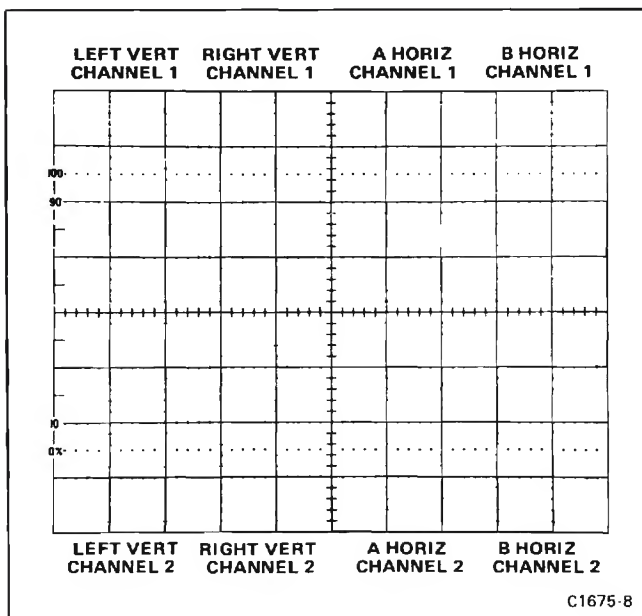
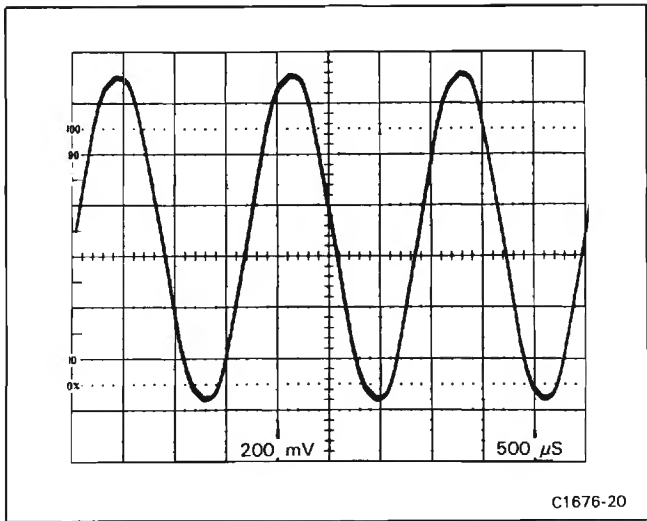

Figure 2-38. Location of Readout words on the crt identifying the originating plug-in and channel.
Figure 2-40. Typical readout display where only channel 2 of the Right Vertical and B Horizontal units is displayed.
**Frame**—A frame is a display of all words for a given operating mode and plug-in combination. Up to eight words acquired from the plug-ins can be displayed in one frame. Figure 2-38 shows the position of each word in a complete frame when operating the instrument in the scope mode.
In the SCOPE mode, up to eight words of readout information may be displayed on the crt. The position of each word is fixed and is directly related to the plug-in unit from which it originated. Figure 2-38 shows the area of the graticule where the readout information from each plug-in unit is displayed. Notice that Channel 1 information from each plug-in unit is displayed on line 1 of the crt while that of Channel 2 is displayed on line 16 (2 lines per division). Figure 2-40 shows a typical display where only Channel 2 of the RIGHT VERT and B HORIZ units is selected for display.